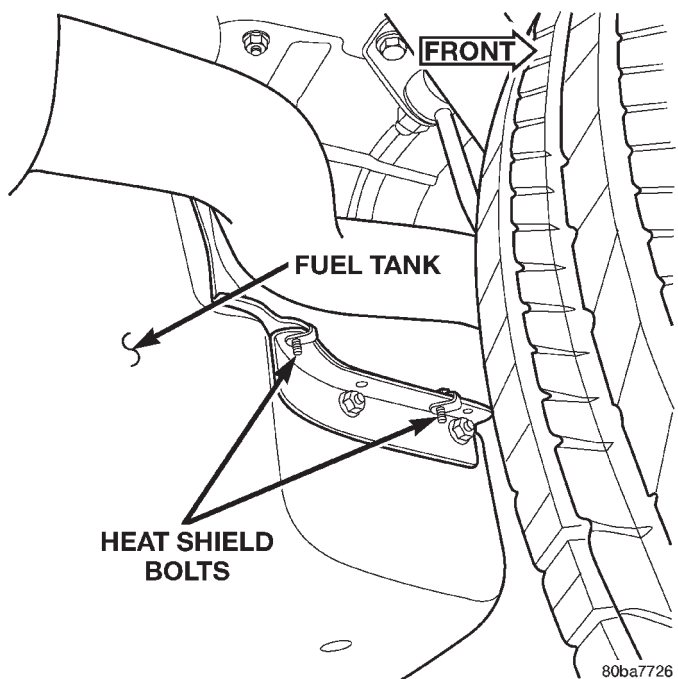

Fig. 39 Fuel Tank Heat Shield Bolts
- (10) Remove fuel tank heat shield mounting bolts (Fig. 39).